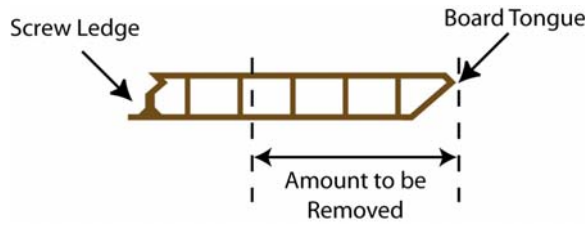

Figure 3a: Starter Board
2. Subtract 6 1/8" from this measurement. Continue to subtract an additional 6" from the total until the result is less than 6". The result is the width you must remove from the **tongue side** of the starter board, (including the width of the tongue). See Figure 3a.